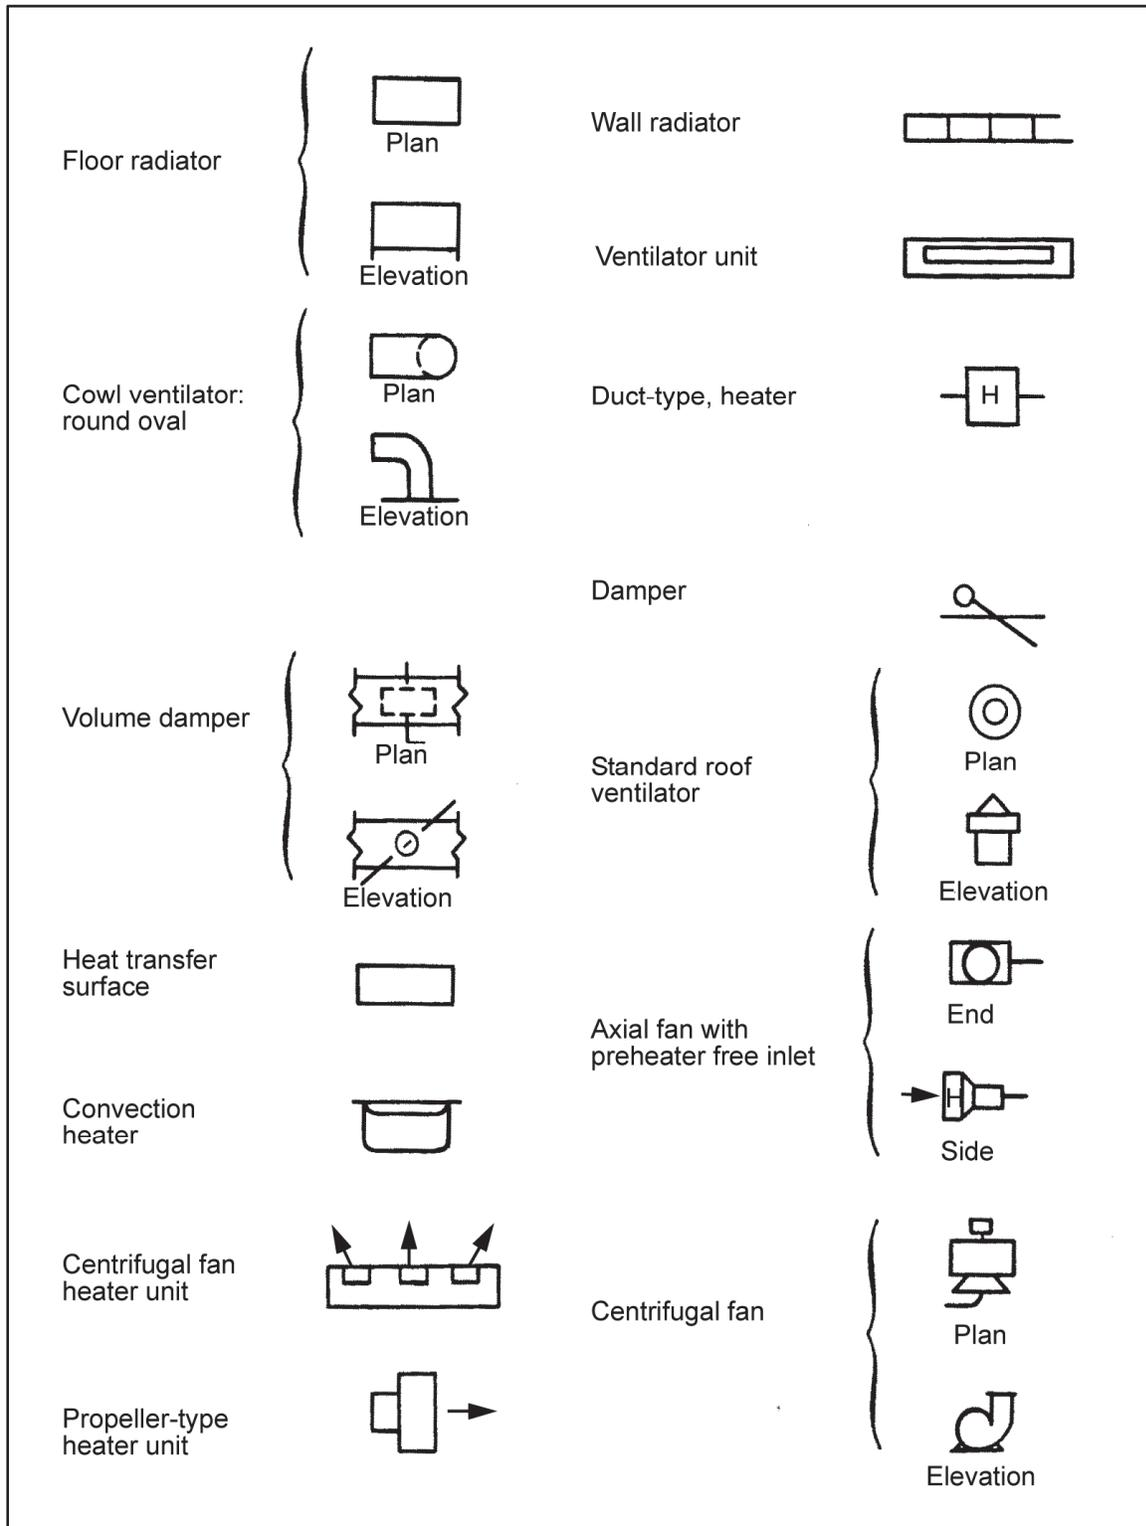

Figure B-11. Heating fittings and fans
- Heating Fittings and Fans (figure B-11, page B-12).